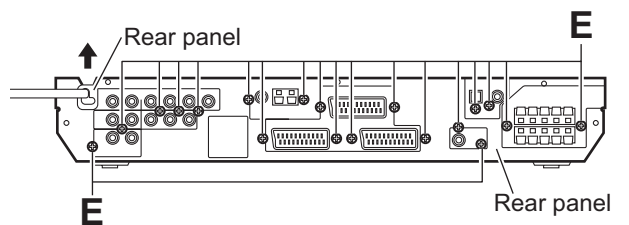

Fig.6
3.1.3 Removing the rear panel (See Fig. 6)